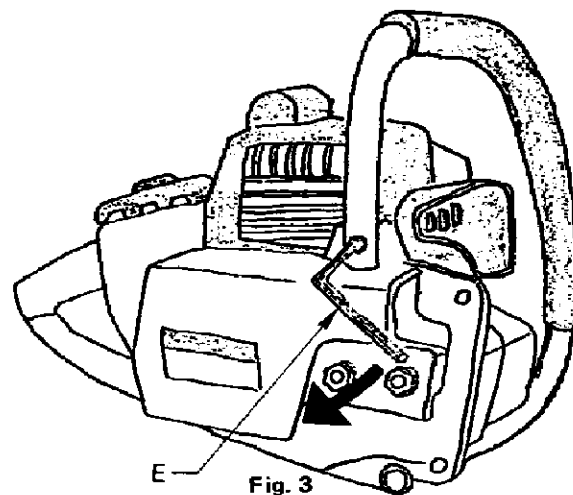

Fig. 3
3. Tighten three screws with **ALLEN WRENCH (E)**. See Fig. 3.